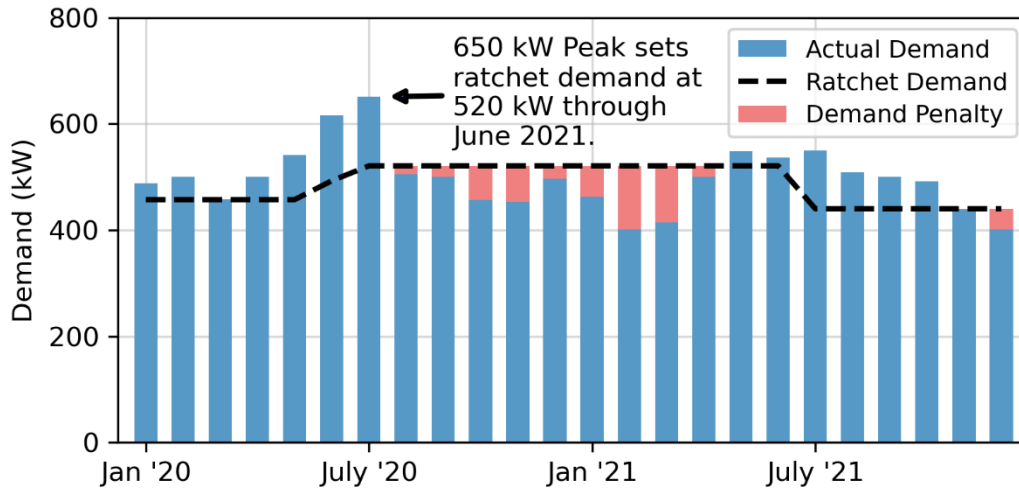

Figure 7: Ratchet clauses set the minimum billed demand for the next 11-month period.
will be the larger of (1) the current month’s demand or (2) some percentage, usually 70%–80%, of the peak demand from the past 11 months. Figure 7 illustrates how these clauses affect the billed demand on your monthly bills. Note how the facility is penalized for the demand spike in July 2020 for the next 9 months. One way to spot a ratchet clause is a billed demand reading that is the same on multiple bills after your highest demand month.